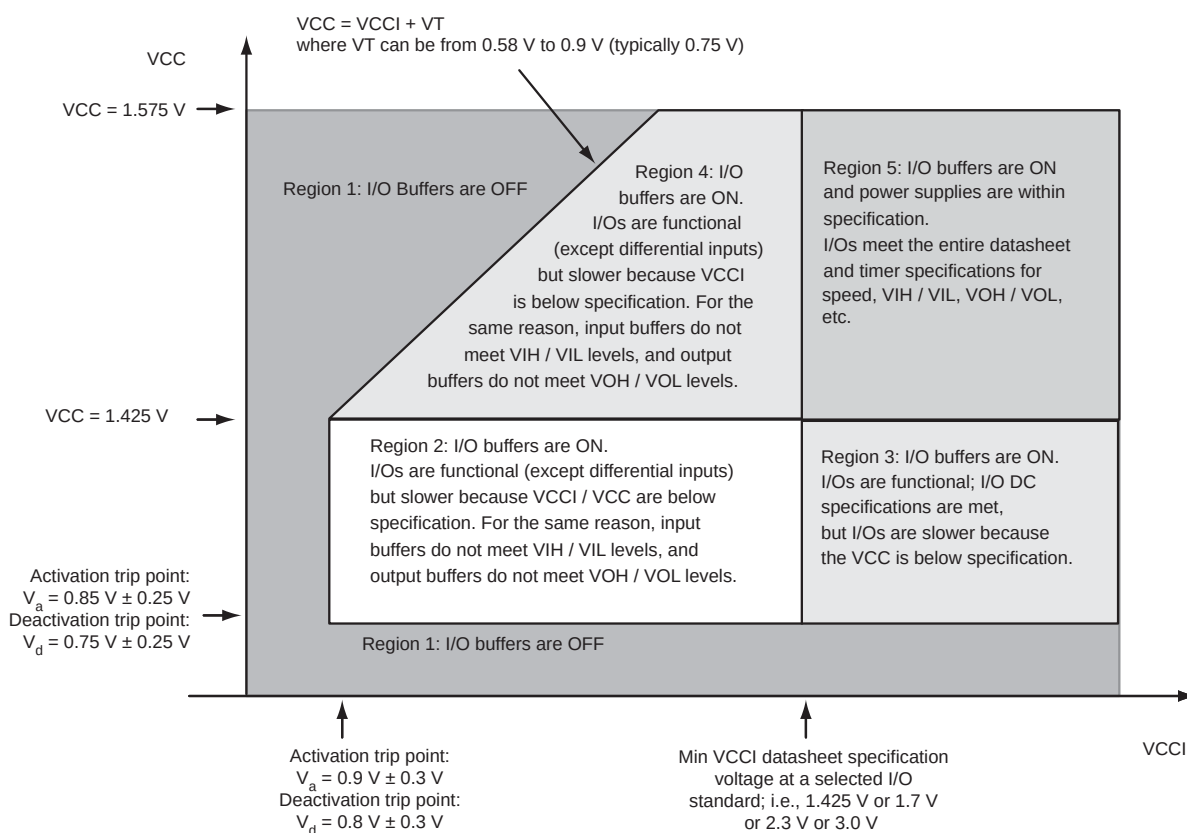
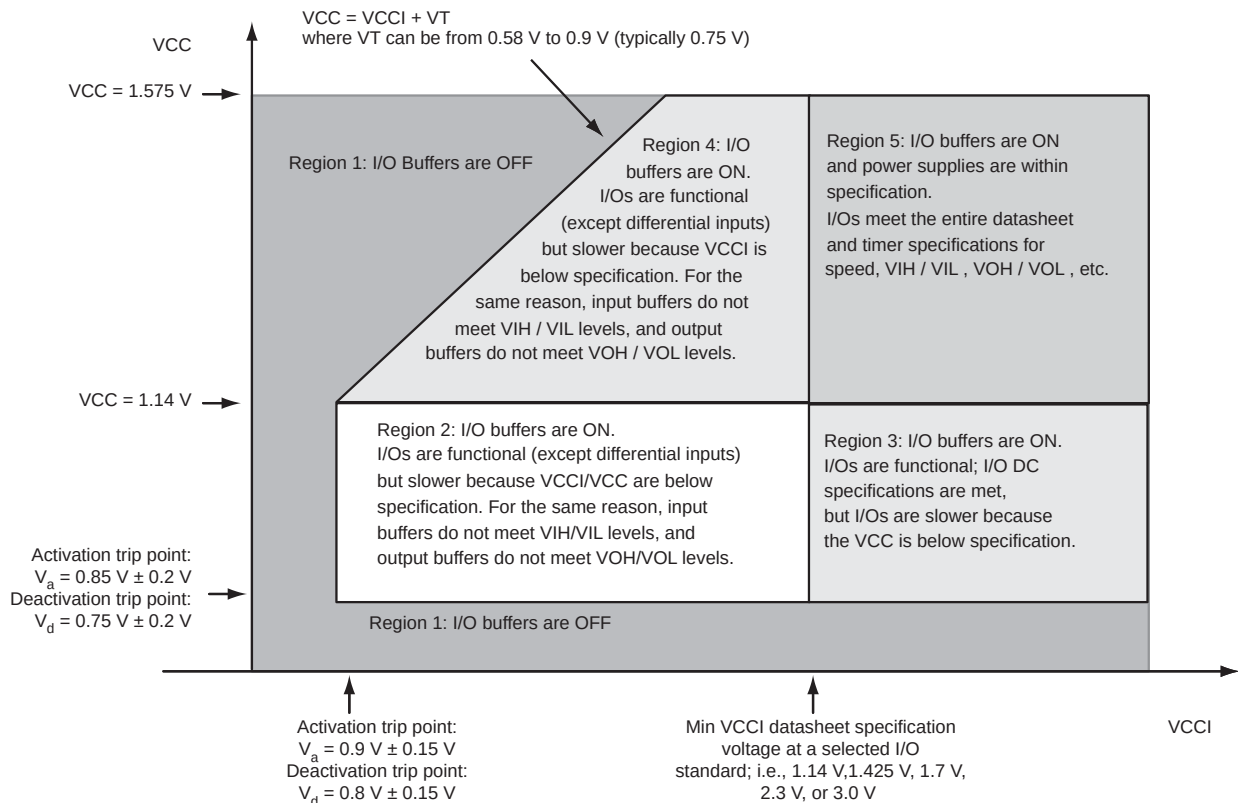

**Figure 2-1 • V5 Devices – I/O State as a Function of VCCI and VCC Voltage Levels**
Figure 2-2 • V2 Devices – I/O State as a Function of VCCI and VCC Voltage Levels
Sophisticated power-up management circuitry is designed into every IGLOO device. These circuits ensure easy transition from the powered-off state to the powered-up state of the device. The many different supplies can power up in any sequence with minimized current spikes or surges. In addition, the I/O will be in a known state through the power-up sequence. The basic principle is shown in Figure 2-1 on page 2-4 and Figure 2-2 on page 2-5.
1. VCC and VCCI are above the minimum specified trip points (Figure 2-1 on page 2-4 and Figure 2-2 on page 2-5).
Microsemi recommends using monotonic power supplies or voltage regulators to ensure proper power-up behavior. Power ramp-up should be monotonic at least until VCC and VCCPLX exceed brownout activation levels (see Figure 2-1 and Figure 2-2 on page 2-5 for more details).